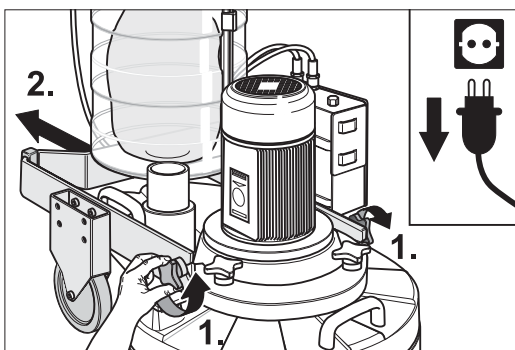

Fig. 45 The chassis can be moved backwards once the crossnut fasteners have been loosened.
- 8 Now loosen the two crossnut fasteners at the side by which chassis is attached to gear casing and move the chassis backwards, keeping it in an upright position (Fig. 45).